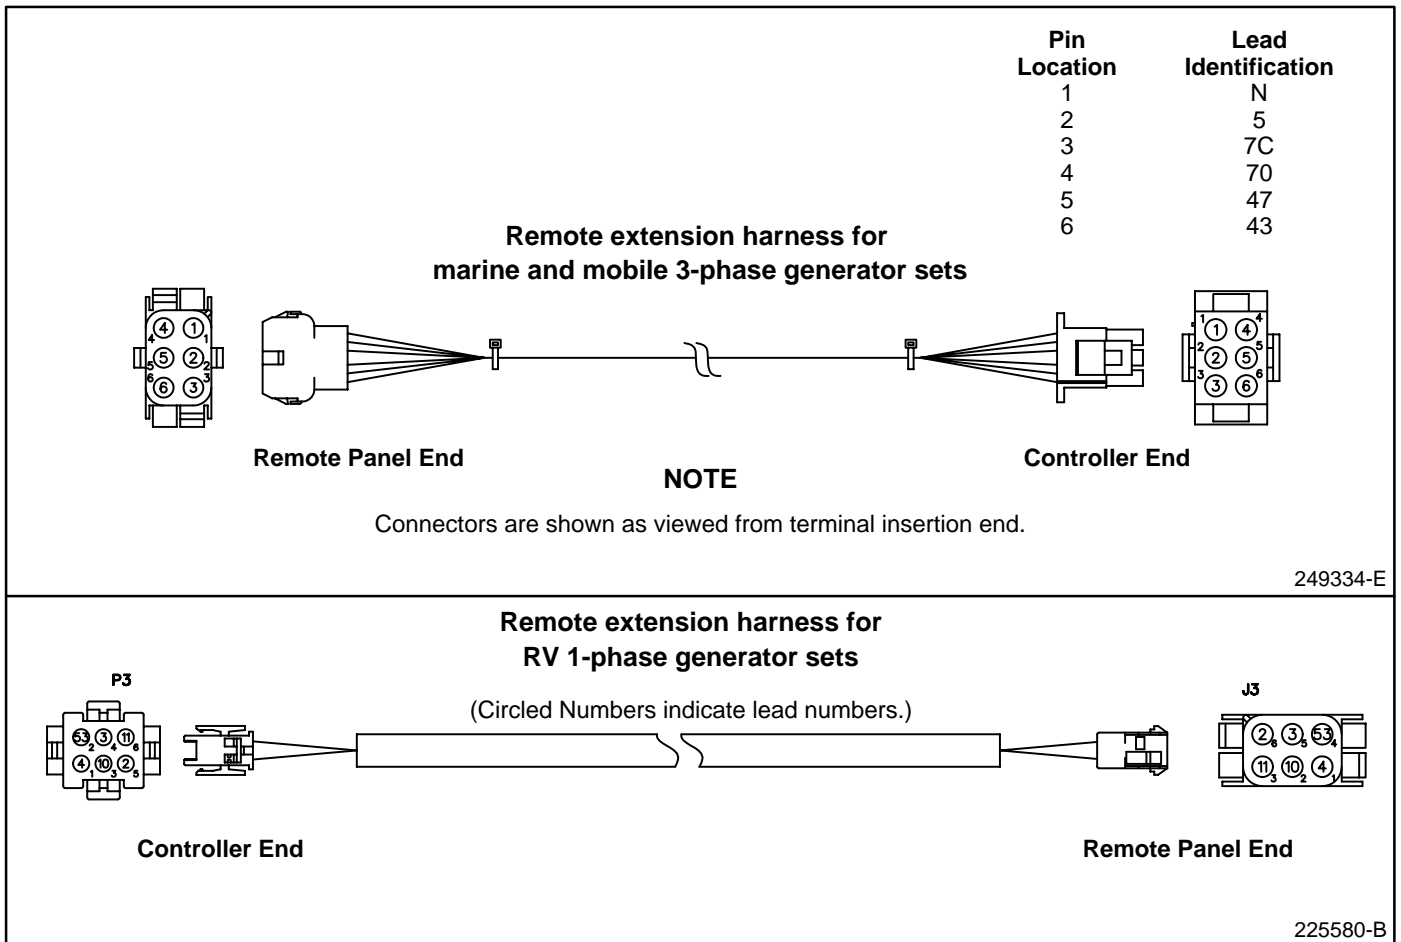

Figure 5. Remote Extension Harness
4. Connect remote extension harness to remote panel and mount panel using four screws (not supplied). See Figure 5.
5. Connect the other end of extension harness or remote extension harness to back of generator set controller. See Figure 5.